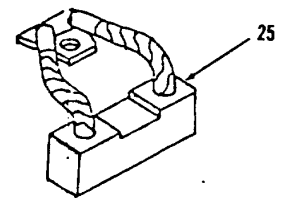

Figure 4-50.
1. If any of four brushes (25) are worn more than half when compared to a new brush, replace all four brushes (25, Figure 4-50).